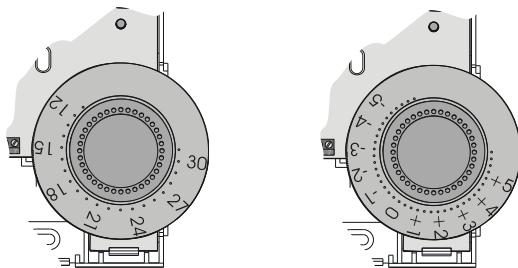

Fig. 3. Mounting position of setpoint dial
6. CLCM2T,4T,5T,6T, only: Make sure that the dial's position is such that the 30 ( $^{\circ}\text{C}$  absolute scale) or the +5 ( $^{\circ}\text{C}$  relative scale) points to the right-hand side of the wall module (see Fig. 3).